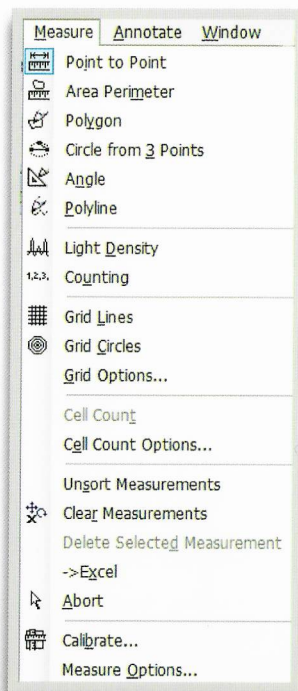

Figure 6
4. Select Calibrate... from the Measure drop-down menu (Refer to Figure 6).
Once the software has been calibrated, measurements may be performed on the live preview or on any captured images. Types of measurements are presented in the Measure drop-down menu (Refer to Figure 6). Selecting a measurement option transforms the cursor to a crosshair. Choose your starting point, left click, drag your mouse to the end of the item being measured, and left click to finish. The live preview will freeze during measurements and resume when the measurement operation is completed.